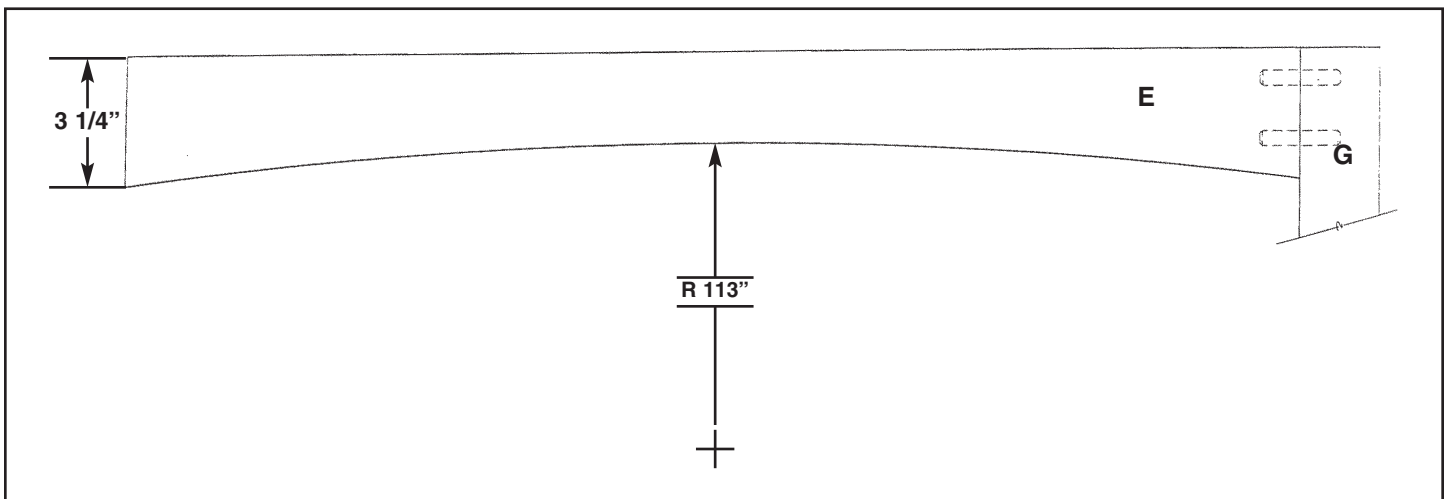

Figure 4
5. Cut curve on board (E). Refer to Figure 4.